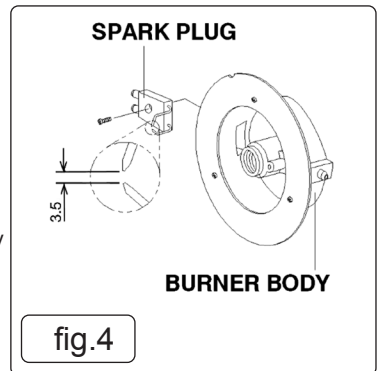

fig.4
6.3.1. Clean and re-gap every 600 hours of operation or replace as needed. After removing the spark plug, clean the terminals with a wire brush, re-gap the terminals to 0.140" (3.5mm) fig.4.